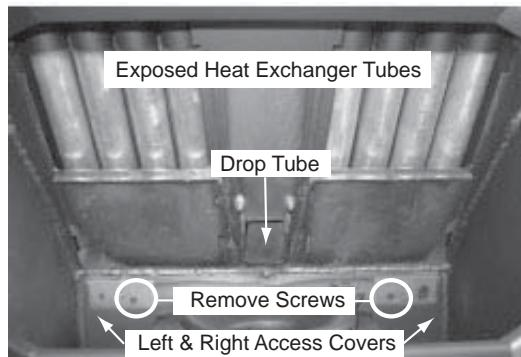

Figure 36.1 - Baffle Removed
1. Use a Shop Vac to vacuum any fly ash and soot from the heat exchanger tubes and firebox area. **Figure 36.1**
1. There are 2 exhaust exits at the back of the firebox on the left and right side. **Figure 36.1.**